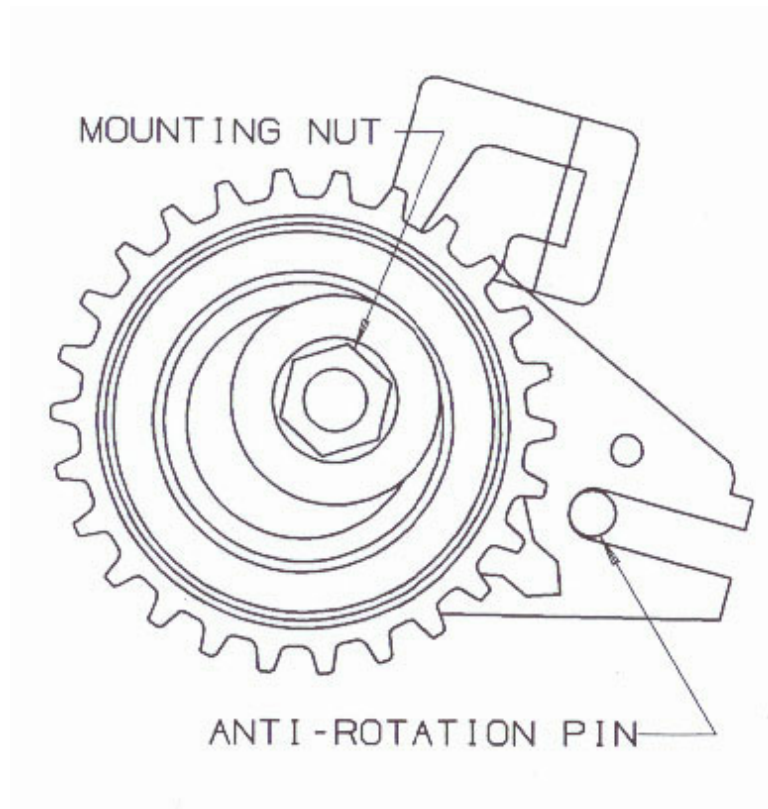

Figure 1: Tensioner shown at Free-Arm position placed on the mounting bracket.
4. Slide the tensioner to the farthest right for easier routing of the timing belt and hand tighten the *M8 Mounting Nut* (See Figure 1).